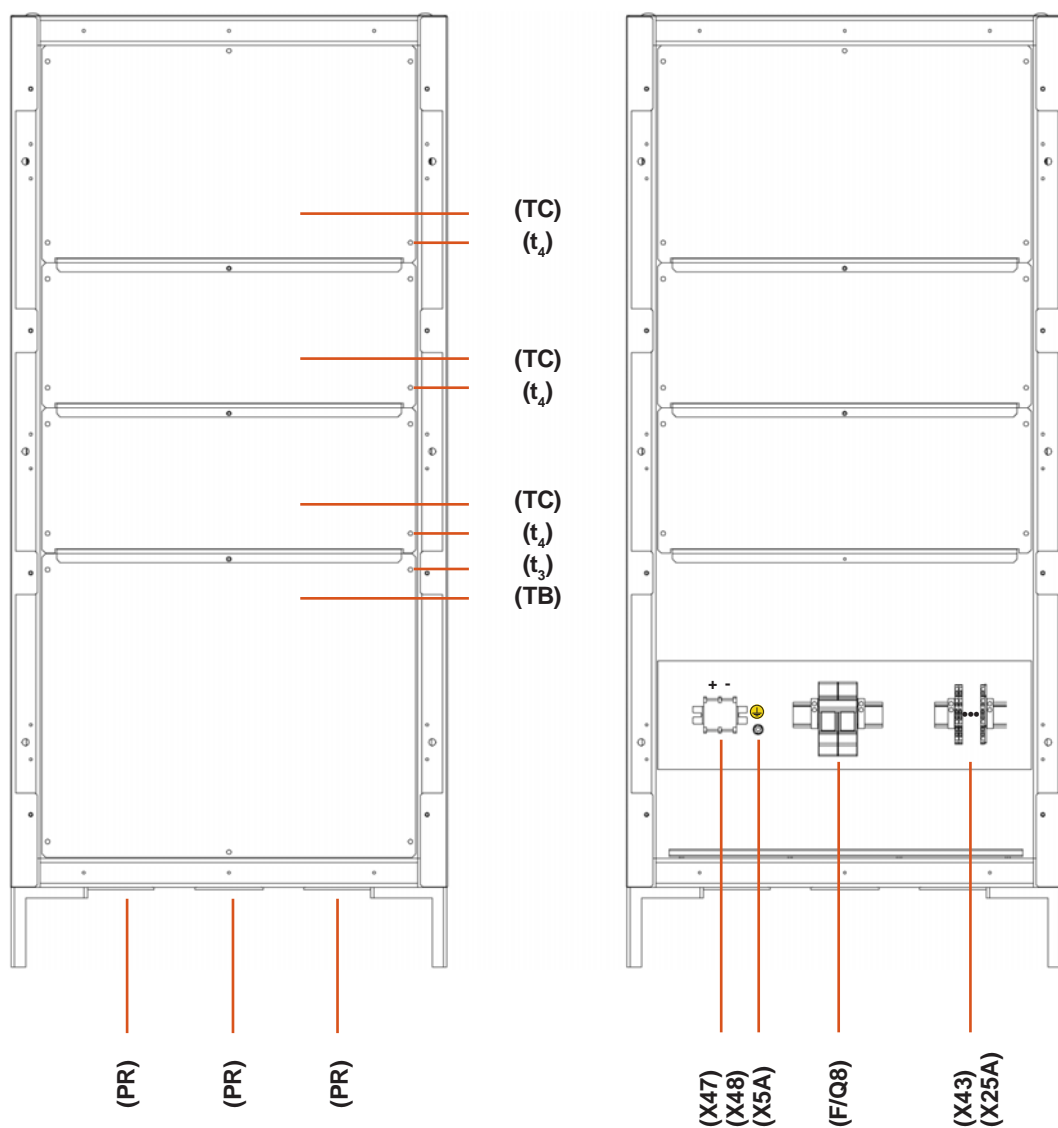

Fig. 9. Front view of 605x605x1315 mm battery cabinet.
- 1205 mm battery cabinet height, with additional levelers feet of 110 mm, so the total height will be 1315 mm. It is available in 600x600 and 600x800 mm cabinet base dimensions. (See Fig. 9 and 10).